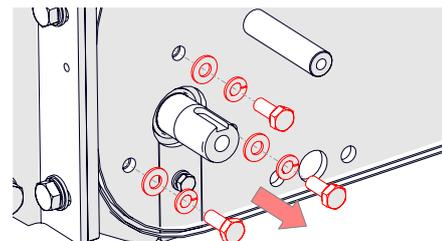

Fig.12K - Remove bolts from LH cylinder bearing
12. Remove the 3 x M8 bolts supporting the left hand cylinder bearing [13 mm spanner] (Fig. 12K).